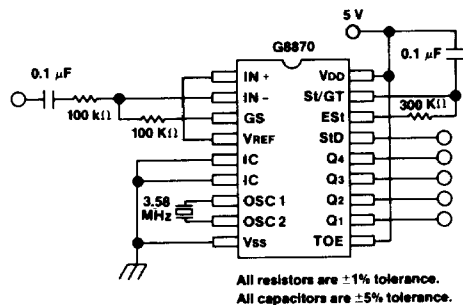

Figure 1. Single Ended Input Configuration
AC Characteristics: All voltages referenced to VSS unless otherwise noted. VDD = 5.0V, VSS = 0V, TA = 25° C, fCLK = 3.579545 MHz using test circuit (Fig. 1).
14. Referenced to Figure 1. Input DTMF tone level at -28 dBm.
The value of TDP is a parameter of the device and TREC is the minimum signal duration to be recognized by the receiver. A value for C of 0.1 μ F is recommended for most applications, leaving R to be selected by the designer. For example, a suitable value of R for a TREC of 40 milliseconds would be 300K. A typical circuit using this steering configuration is shown in Figure 1. The timing requirements for most telecommunication applications are satisfied with this circuit. Different steering arrangements may be used to select independently the guard-times for tone-present (tGTP) and tone-absent (tGTA). This may be necessary to meet system specifications which place both accept and reject limits on both tone duration and interdigit pause.
In a single-ended configuration, the input pins are connected as shown in Figure 1 with the op-amp connected for unity gain and VREF biasing the input at $\frac{1}{2}V_{DD}$. Figure 6 shows the differential configuration, which permits the adjustment of gain with the feedback resistor Rs.